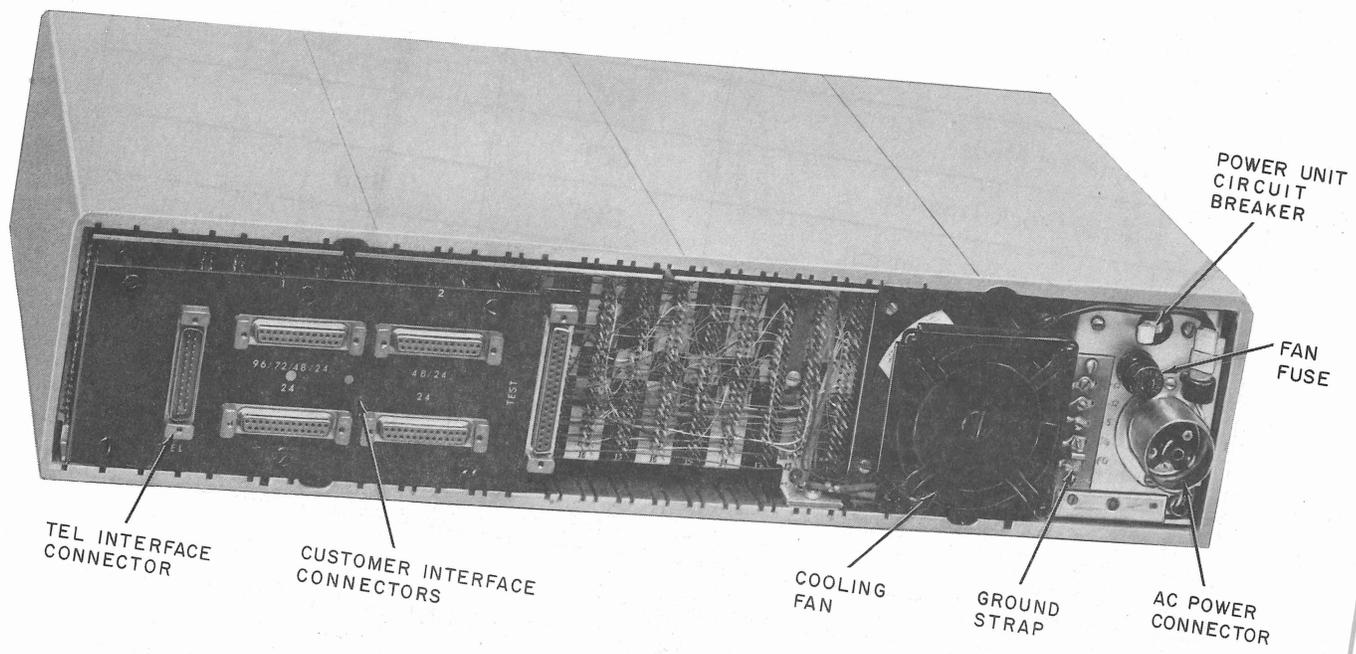

Fig. 2—Data Set 209A-L1 With Faceplate Removed—Rear View
2.04 The data set is provided with four customer interface connectors, a TEL interface connector, and a power cord connector located at the rear of the set, as shown in Fig. 2. Customer interface connectors 1, 2, 3, and 4 are KS-19087-L2 and provide the digital interface leads for interface with CPE or extension data sets. The CPE must be equipped with a cable terminated in a Cinch or Cannon DB-19604-432 plug wired in accordance with Table A. The TEL interface connector is a KS-19088-L2 and provides the interface for connection to the 4-wire PL channel. The TEST connector,
2.06 The data set power unit is protected by a circuit breaker mounted on the backplane inside the rear faceplate. In addition, the power unit is protected by a self-resetting thermal switch to prevent overheating. The data set cooling fan is protected by a fuse which is also mounted on the backplane. Locations of the circuit breaker and fan fuse are shown in Fig. 2.
- (a) On pin 11, no assignment is given in EIA Standard RS-232-C. DS 209A-L1 has provided the equalizer mode (QM) signal on this lead.
2.16 The telephone interface is accessible through the TEL connector (Fig. 2) at the rear of the data set. The connector pin numbers and the corresponding lead designations are given in Table C.